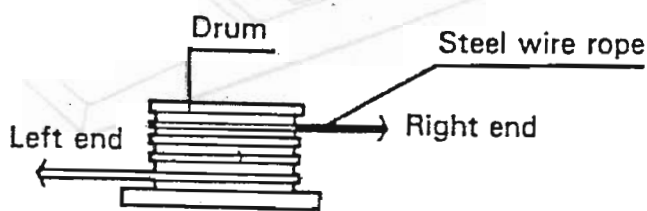

Fig 1
1. Circle the steel wire rope for four times round the drum (Fig 1).